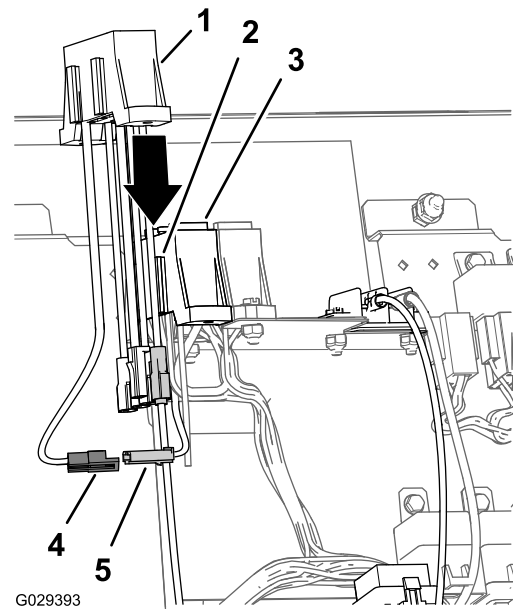

Figure 22
2. Connect the 2-pin connector for the auxiliary-feed wires of the fuse block for the machine to the 2-socket connector for the feed wires of the auxiliary-fuse block (Figure 22).
3. Align the slots in the auxiliary-fuse block with the mounting flanges of the fuse block for the machine (Figure 22).